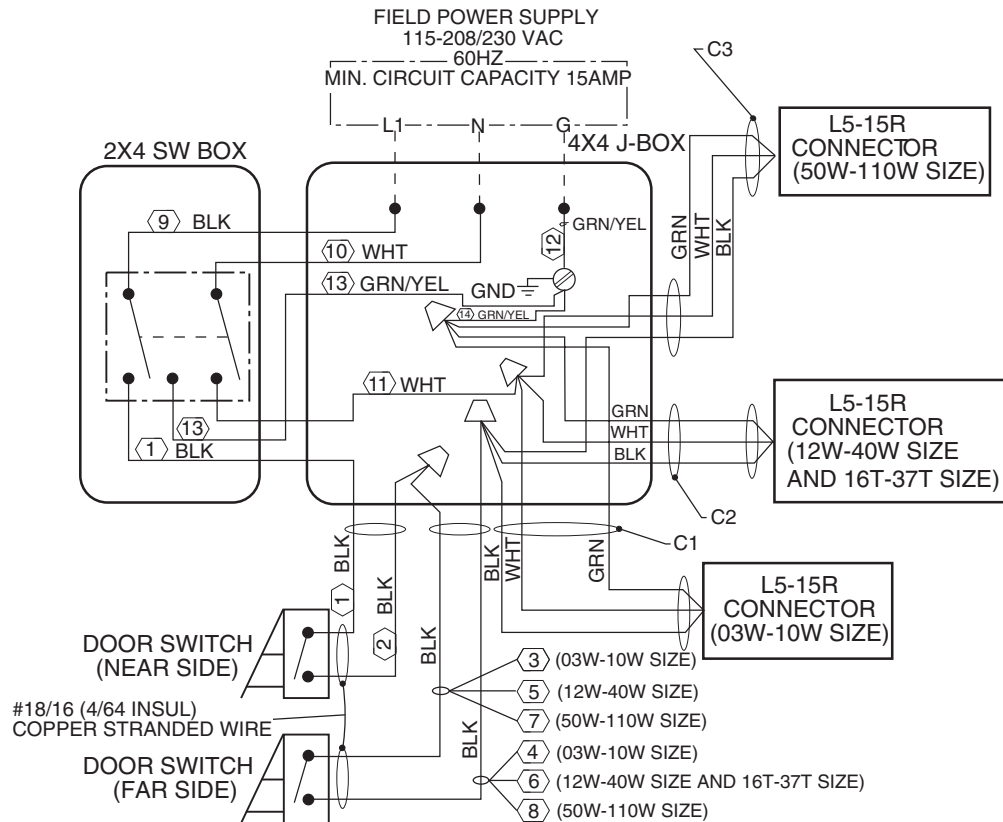

Fig. 14 — UV-C Section Wiring Diagram
1. Wire the separate, dedicated, 115-208/230 v power source to the junction box. Wire per Table 4 and Fig. 14.
2. Run the service and interlock switch cables through the pilot hole, and wire in the junction box and switch box. See Fig. 14.